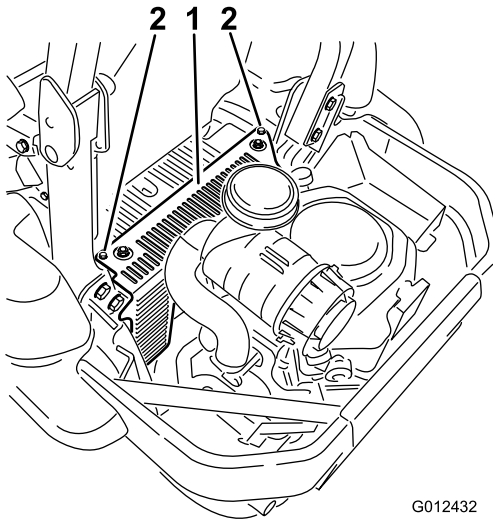

Figure 56
3. Remove the hydraulic unit shroud and the 2 bolts attached to it (Figure 56). This gives you access to the front spark plug.
Install the hydraulic unit shroud (Figure 56).